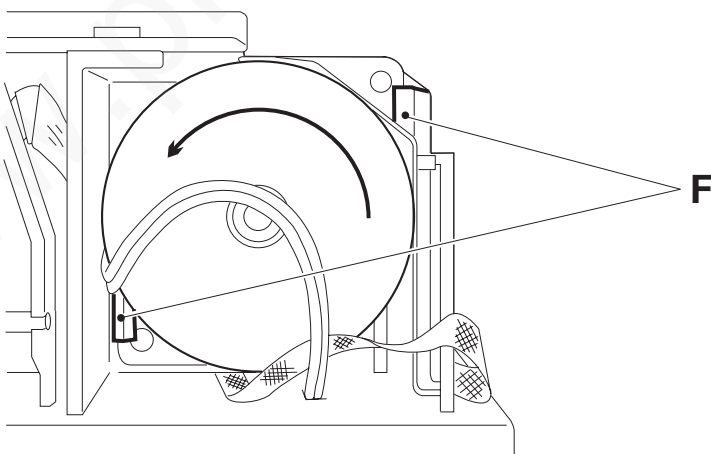

Fig. 7-35
- 3) Rotate the motor counter-clockwise until it is released from the latches **F** (Fig. 7-35):